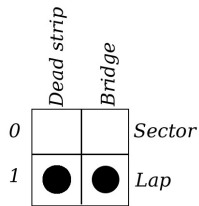

Figure 13: not allowed setting
In figure 13 the last possible switch combination for sensor setting is shown. This combination would tell the *Track Interface* to consider both DS bridge and dead strip as lap counter sensors, but this is impossible. The *Track Interface* signals this wrong combination by making LED (3) and (4) flash until the user changes the setting. Moreover, during this situation the *Track Interface* does not carry out any function.